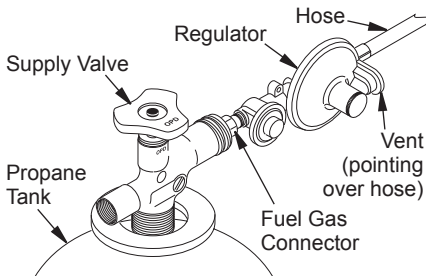

Figure 3 - Regulator With Vent Pointing Over Hose
2. Connect POL fitting on hose/regulator assembly to propane tank(s). Turn POL fitting counterclockwise into threads on tank. Tighten firmly using wrench. Tighten regulator with vent pointing over the hose (see Figure 3, page 5).